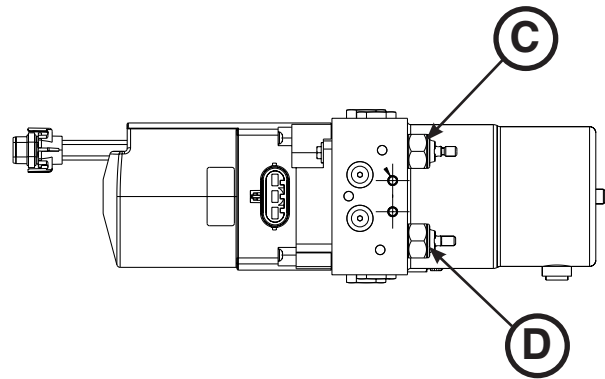

Figure 96
6. Using a 7/8" combination wrench, remove the valve (C or D) to be replaced (Figure 96).